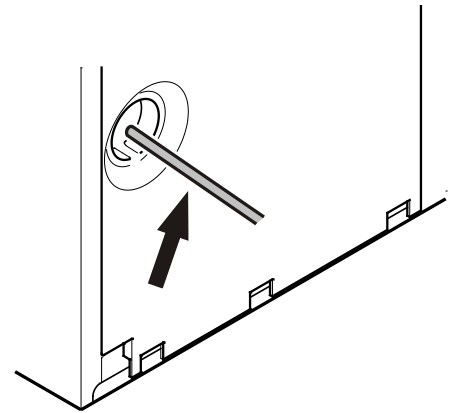

Figure 11
4. Insert the water supply line into its intended opening at the back of the appliance (**Figure 11**).